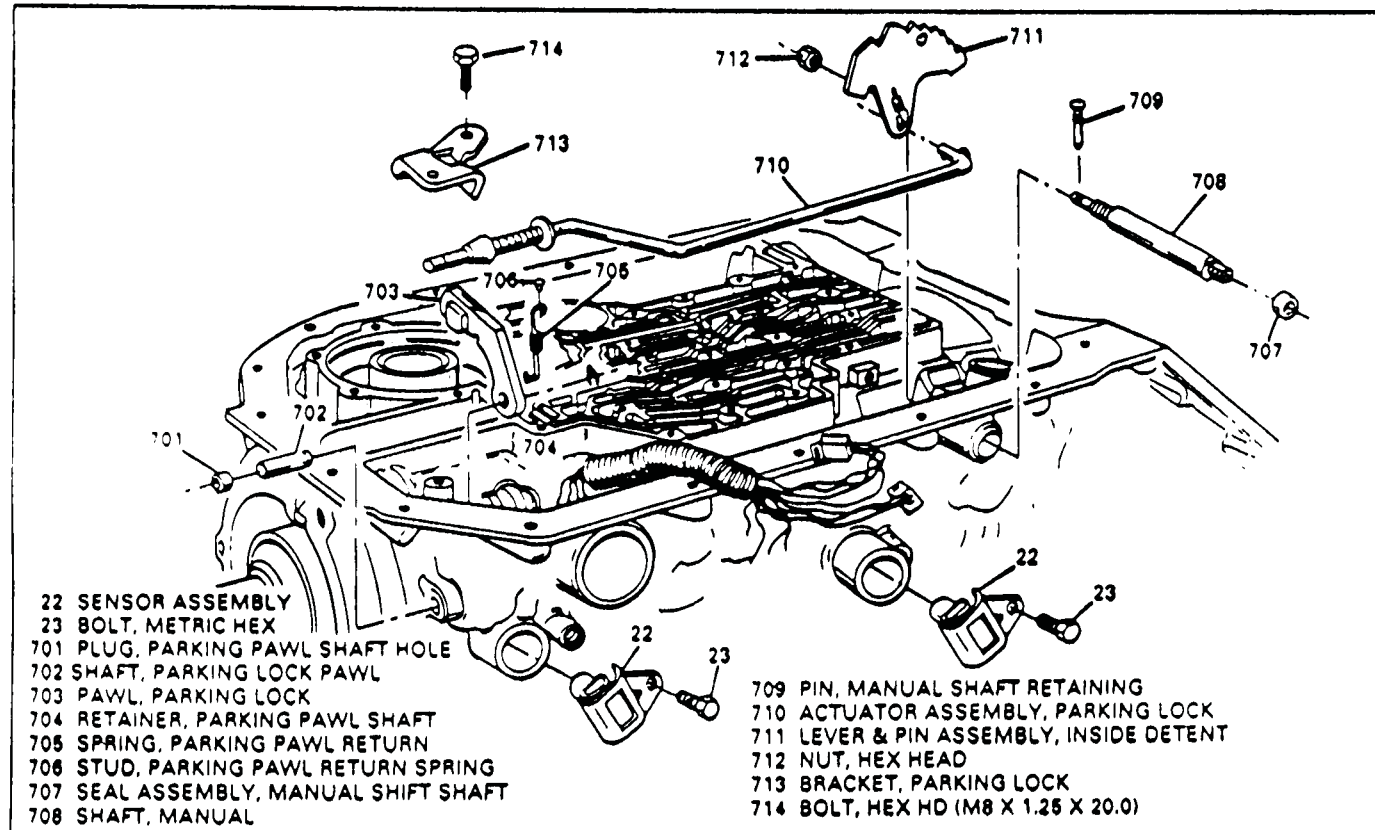

Figure 57
7. If parking linkage and manual shaft were removed, install linkage at this time using Figure 57 and 58 as guide.
8. DO NOT install parking bracket (713) or the speed sensors (22) at this time to prevent damage during gear train installation (See Figure 57).